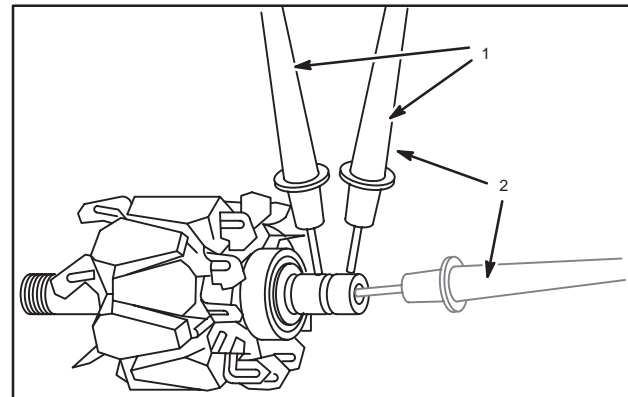

Fig. 30 – Check Rotor
1. Use digital multimeter and check for continuity between slip rings as shown, Fig. 30.